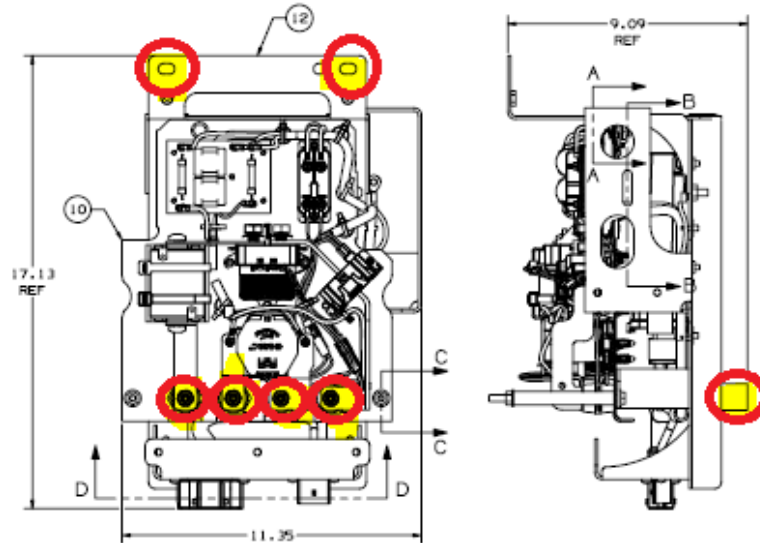

Figure 11: BDU mounting hardware
- 3.3.2 Remove the 2 bolts at the back side of the BDU assembly that mounts the BDU to the ESS. These two bolts can be seen in the single circle on the right view of Figure 11. Certain